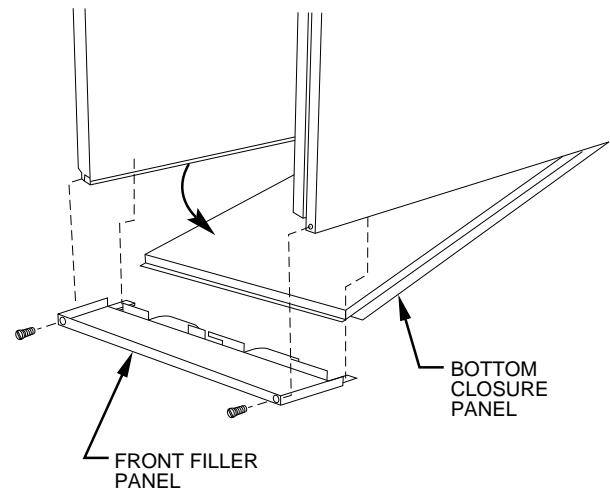

Fig. 20—Removing Bottom Closure Panel
1. Tilt or raise furnace and remove 2 screws holding front filler panel. (See Fig. 20.)